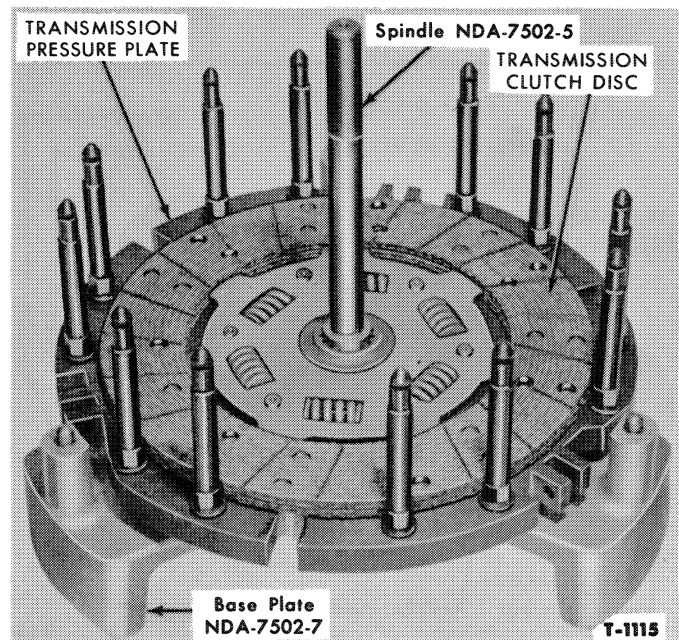

Figure 9—Assembling Double Clutch on Fixture
1. Install the transmission pressure plate assembly on Base Plate NDA-7502-7. Place the transmission clutch disc in position over Spindle NDA-7502-5. Be sure that the side with the springs flush with the disc is installed toward the transmission end of the clutch as shown in Figure 9.